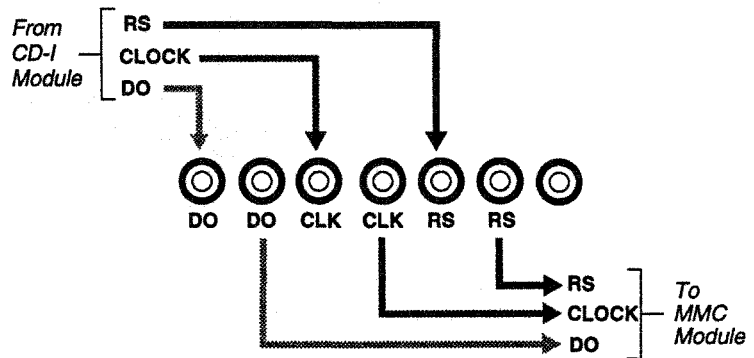
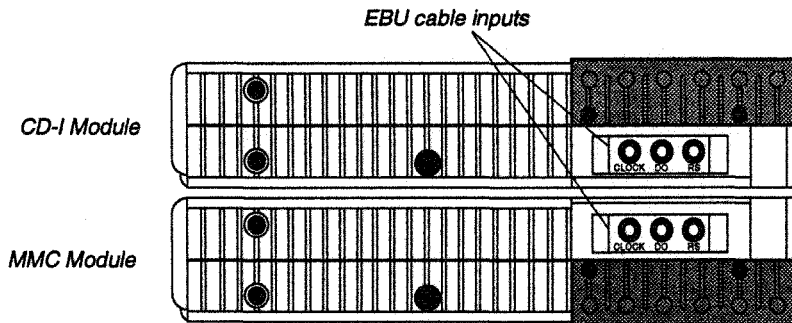

Figure 2: Emulator EBU connections to CD-I 180 player
Figure 3: CD-I player EBU inputs
1. Connect the 3-plug EBU cables to the emulator (see Figure 2) and to the CD-I player (see Figure 3). Be careful to match the DO, RS, and CLOCK (CLK) lines to the correct CD-I player module connectors.
Figure 2 illustrates the emulator EBU cable connections. Figure 3 is a view of the right side of the CD-I 180, 181 player stack showing the location of the EBU cable connections.